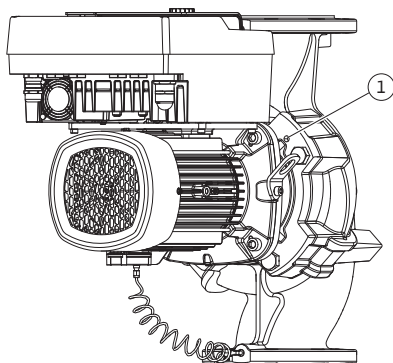

Fig. 103: Pressing off the motor impeller unit via threaded holes
12. For pump type (Fig. III, IV), loosen the screws (Item 29). Use the two adjacent threaded holes (Fig. 103, Item 1) and use suitable screws provided on-site (e.g. M10 x 25 mm). Pull the motor impeller unit off the pump housing.